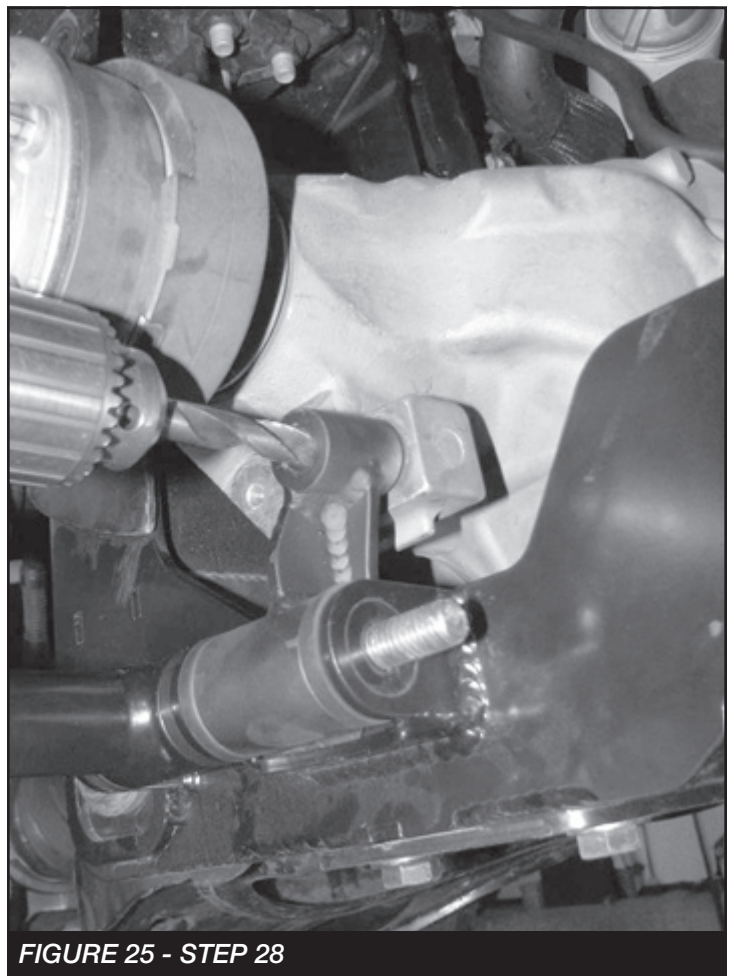

FIGURE 25 - STEP 28
28. Rotate the rear diff mount up against the housing. Using the diff mount as a drill guide drill the housing to 1/2". **NOTE – DEPENDING ON THE BUILD TIME OF THE VEHICLE, THE HOUSING MAY HAVE A MACHINED SURFACE AND A THREADED HOLE ON THE SECTION OF THE HOUSING YOU ARE WORKING WITH. THE (FT30422) REAR DIFF MOUNT WILL WORK WITH EITHER VERSION. SEE FIGURE 25**